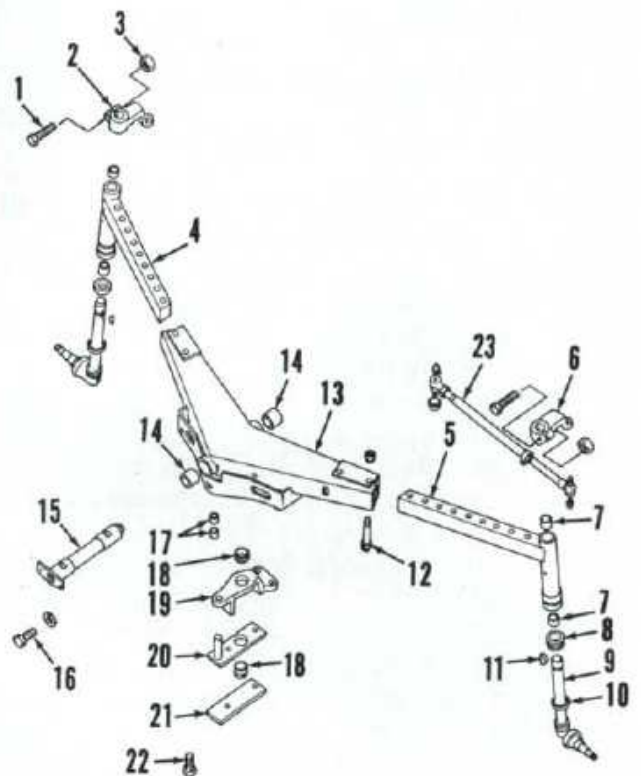

**Fig. 3—Exploded view of straight adjustable front axle used on some tractors.**
2. **R&R SPINDLES.** To remove either spindle (9—Figs. 3, 4 or 5), block rear wheels securely and apply park brake. Raise front of tractor and install jack stand under axle main member (13). Unbolt and remove front wheel and hub. Disconnect tie rod from steering arm (2 or 6). Remove bolt (1) and nut (3) and lift off steering arm. Remove Woodruff key (11) and lower spindle (9) with thrust bearing (8) and felt ring (10), downward out of axle extension. Remove thrust bearing and felt ring from spindle.
**4. REMOVE AND REINSTALL.** To remove axle main member (13—Figs. 3, 4 and 5), first block rear wheels securely and apply park brake. If so equipped, remove front weights and weight bracket. Unbolt and remove front cover. Support tractor with stands under side rails or oil pan, and remove front wheels. Disconnect tie rod ends from left and right steering arms (2 and 6). Unbolt and remove axle extensions (4 and 5) with spindle assemblies. Identify and disconnect steering cylinder hoses at cylinder. Cap and plug all openings. Remove the cylinder anchor clevis pin. Straighten corners of lock plate (21) and remove cap screws (22), lock plate (21) and cylinder retaining bar (20). Hold cylinder upward and slide cylinder clevis from anchor on axle. Remove steering cylinder. Remove center steering arm (19) and tie rods.